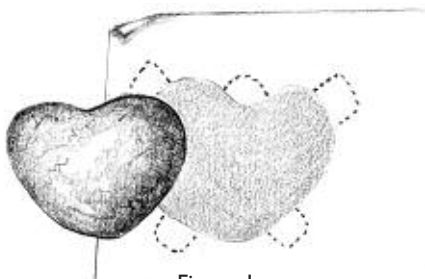

Figure 1.
Step 2. Plan the locations of the prongs and draw them onto the photocopy. (Figure 1) Cut with scissors and test on the stone to be sure it fits. Tip: Tabs often need to be longer than you might guess.